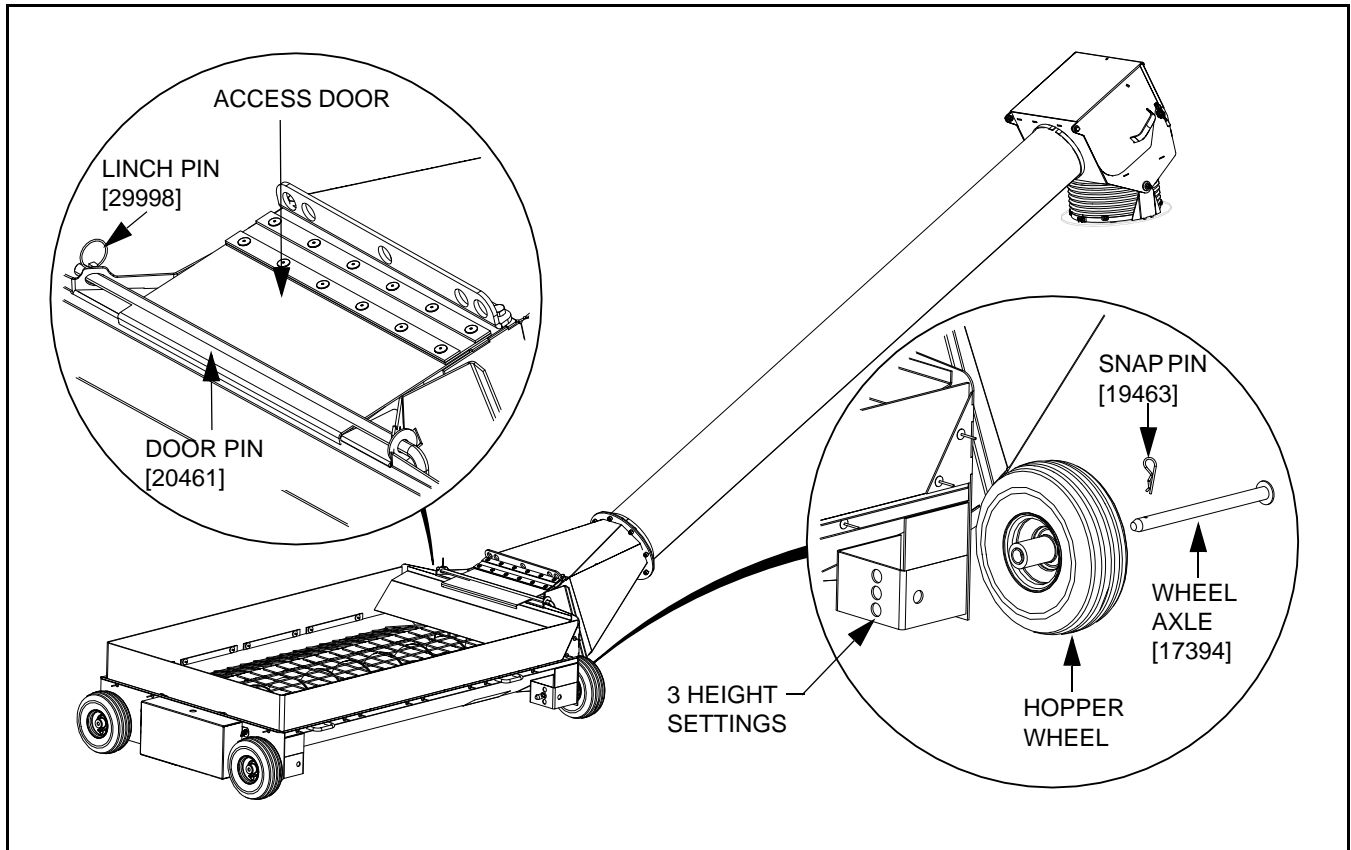

Figure 3
7. Attach the four solid wheels to the four hopper corners with the wheel axles and snap pins. There are three height settings (see Figure 3) that can be used according to preference.
Open the access door - then grease the four bushings and two u-joints. Close the access door, then slide in the door pin and secure with linch pin (see Figure 3).